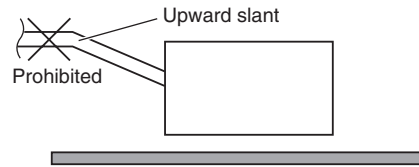

Fig. 1-43
- Do not install the pipe with an upward slant from the connection port. This will cause the drain water to flow backward and leak when the unit is not operating. (Fig. 1-43)